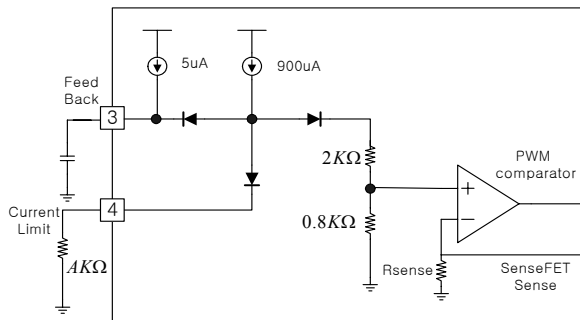

Figure 12. Peak current adjustment
8. Adjusting Current limit function: As shown in fig 12, a combined $2.8k\Omega$ internal resistance is connected into the non-inverting lead on the PWM comparator. A external resistance of A on the current limit pin forms a parallel resistance with the $2.8k\Omega$ when the internal diodes are biased by the main current source of $900\mu A$.